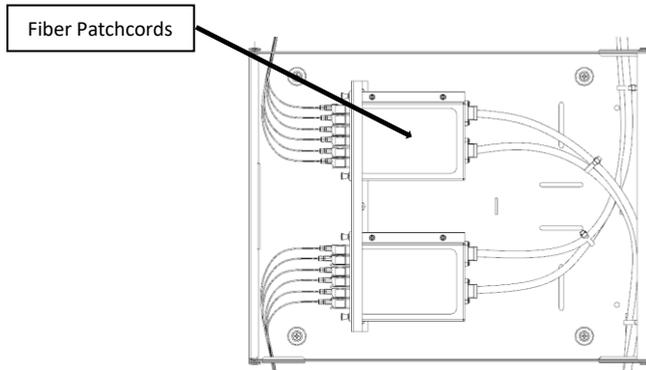
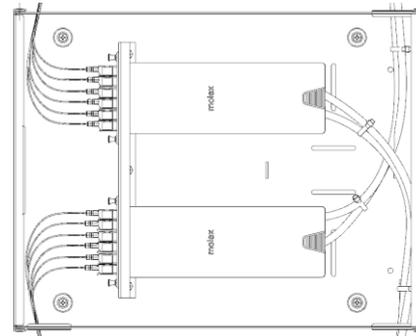

Fig.7
Fig.8
- Cables can enter the top or bottom of the fiber enclosure. Select which input direction is most suitable for the application. (Fig.7 or Fig.8)
- Secure the cables with Cable ties on the enclosure base where the cables are entering. (Cable ties are included in the accessory kit.) (Fig.7)
- Fix/connect patch cords and pigtails into the adapters as reference shown. (Fig.7 or Fig.8)